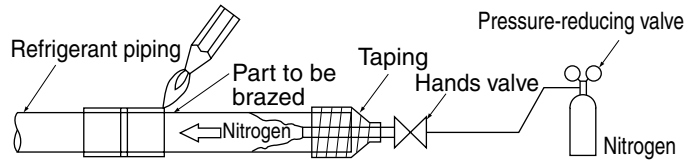

Fig. 17
- Nitrogen should be set to 0.02MPa with a pressure-reducing valve if brazing while inserting nitrogen into the piping. (Refer to Fig. 17)